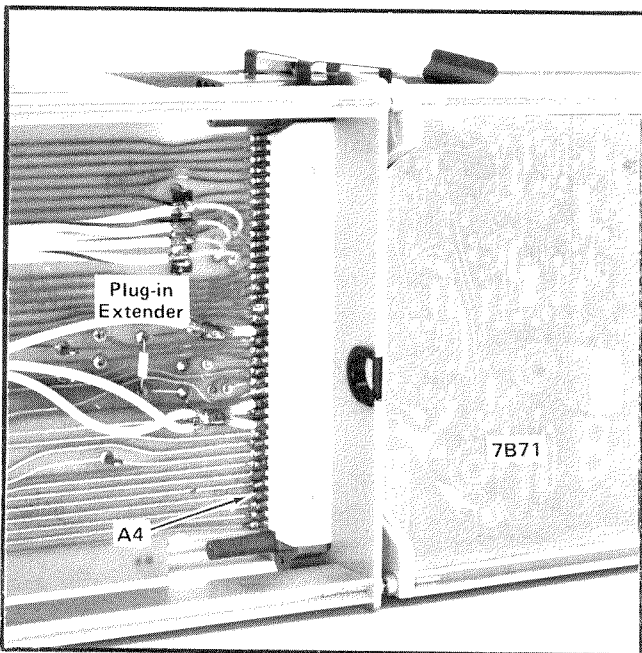

Fig. 5-3. Location of interface connector A4.
b. Connect a 1X probe from the 7A16A input to interface connector A4 (plug-in connector at rear of the 7B71). See Fig. 5-3.